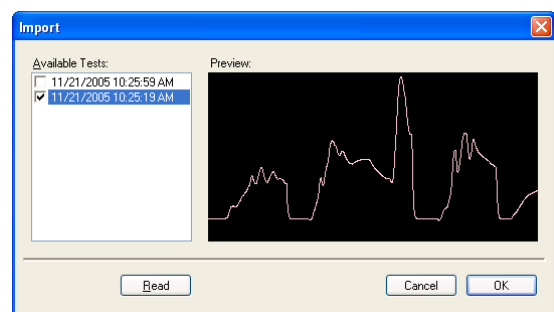

Figure 56: Check the Box to Select Download Files
- Check box(s) to confirm selection (Figure 56)